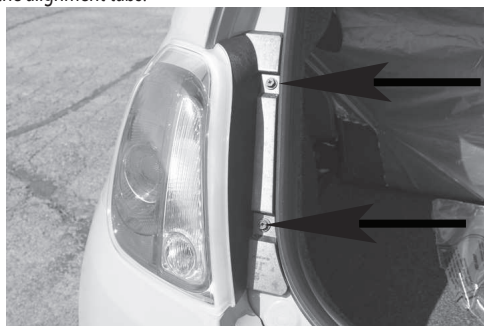

Figure 1
2. Open rear hatch and using a 11mm socket remove screws holding taillights on driver and passenger side shown in **Figure 1**. Gently pull taillights away from vehicle taking care not to damage the alignment tabs.